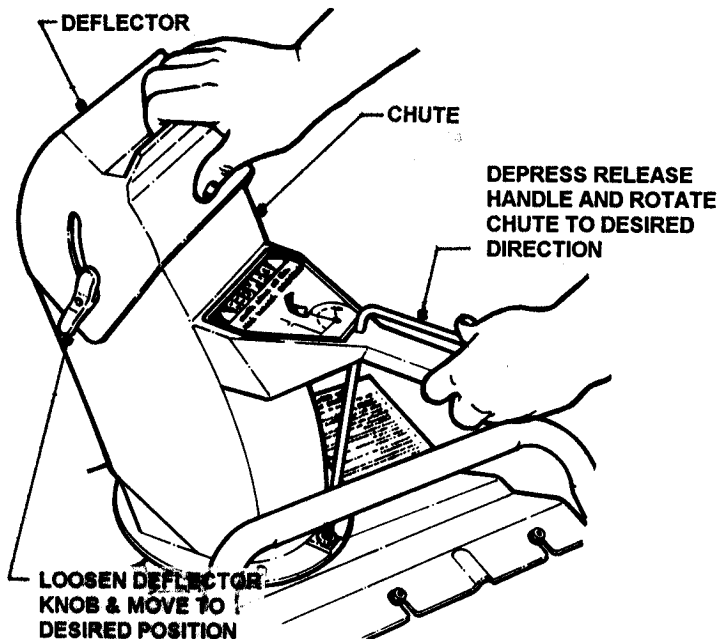

FIGURE 2.6
3. Depress discharge chute release handle and rotate discharge chute to the desired direction. Disengage release handle and discharge chute will lock into position. See Figure 2.6.
3. Depress discharge chute release handle and rotate discharge chute to the desired direction. Disengage release handle and discharge chute will lock into position. Refer to Figure 2.6.